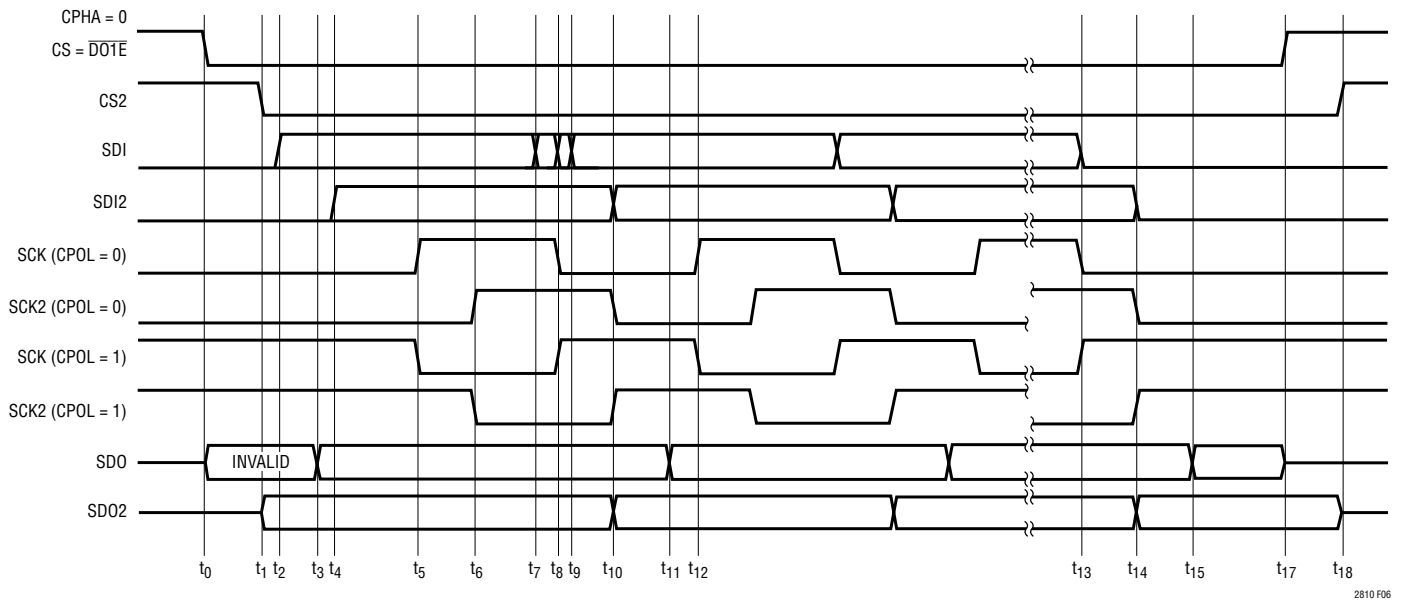

Figure 6. SPI Timing Bidirectional, CPHA = 0
The LTM2810-S provides an SPI compatible isolated interface. The maximum data rate is a function of the inherent channel propagation delays, channel to channel pulse width uncertainty, and data direction requirements. Channel timing is detailed in Figures 6 through 9, Table 2, and Table 3. The SPI protocol supports four unique timing configurations defined by the clock polarity (CPOL) and clock phase (CPHA) summarized in Table 1.
The maximum data rate for bidirectional communication is 4MHz, based on a synchronous system, as detailed in the timing waveforms. Slightly higher data rates may be achieved by skewing the clock duty cycle and minimizing the DO1 (SDO) to DI1 (SCK) setup time, however the clock rate is still dominated by the system propagation delays. A discussion of the critical timing paths relative to Figure 6 and Figure 7 follows. For SPI communication DI1 = SCK, DI2 = SDI, DI3 = CS, DO1 = SDO, O1 = SCK2, O2N and O2P = SDI2, O3 = CS2, and I1 = SDO2.
- SDI and SCK setup data transition occur within the same data packet. Referencing Figure 6, SDI can precede SCK by up to 13ns ( $t_7 \rightarrow t_8$ ) or lag SCK by 3ns ( $t_8 \rightarrow t_9$ ) and not violate this requirement. Similarly in Figure 8, SDI can precede SCK by up to 13ns ( $t_4 \rightarrow t_5$ ) or lag SCK by 3ns ( $t_5 \rightarrow t_6$ ).